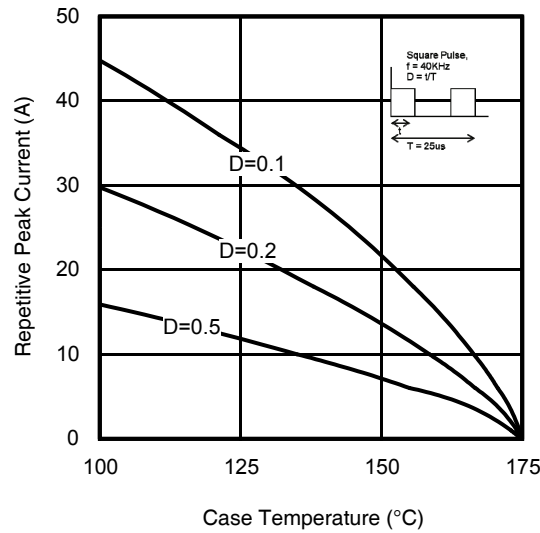

Fig 26. Maximum Diode Repetitive Forward Peak Current vs. Case Temperature
- ① V_{CC} = 80% (V_{CES}), V_{GE} = 20V, R_G = 22Ω, L = 620μH.
- ② R_θ is measured at T_J of approximately 90°C.
- ③ Refer to AN-1086 for guidelines for measuring V_{(BR)CES} safely.
- ④ Pulse width limited by max. junction temperature.
- ⑤ Values influenced by parasitic L and C in measurement.
- ⑥ f_{sw} = 40KHz, refer to figure 26.